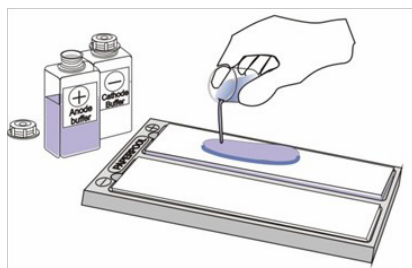

Fig. 1
- Lay two electrode wicks into the compartments of the PaperPool. Apply 42 ml of the respective electrode buffer to each wick and allow soaking for at least 10 min (Fig 1).